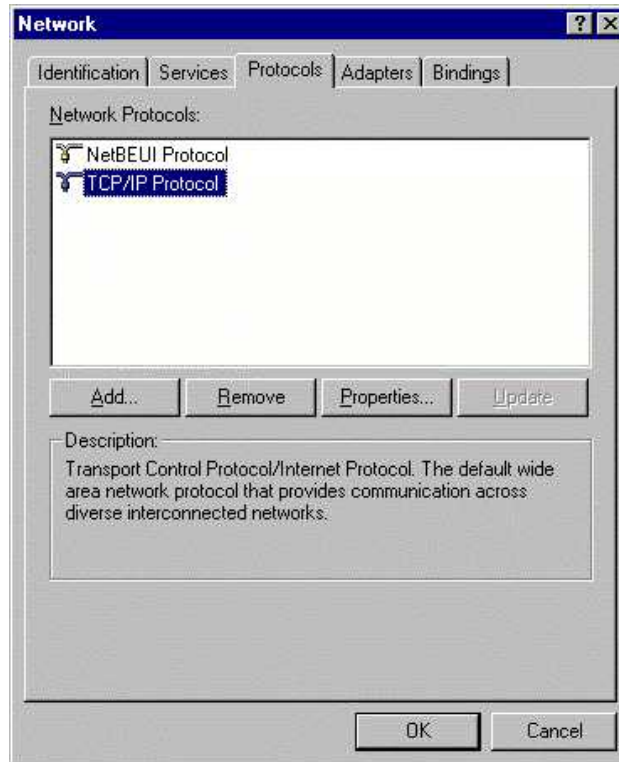

Fig. 8-33
- In the "Network" dialog box, click the "Protocols" tab. Select TCP/IP Protocol and click "Properties" (Fig. 8-33).